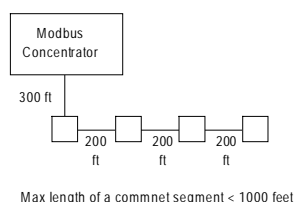

Figure 16. Network illustrating commnet Rule 2.
2. A commnet segment may have no more than 1000 feet of cable between the Modbus Concentrator and the final IED on a segment. (Repeaters may be used to extend this range; see Rule 3.) Figure 16 illustrates this rule.